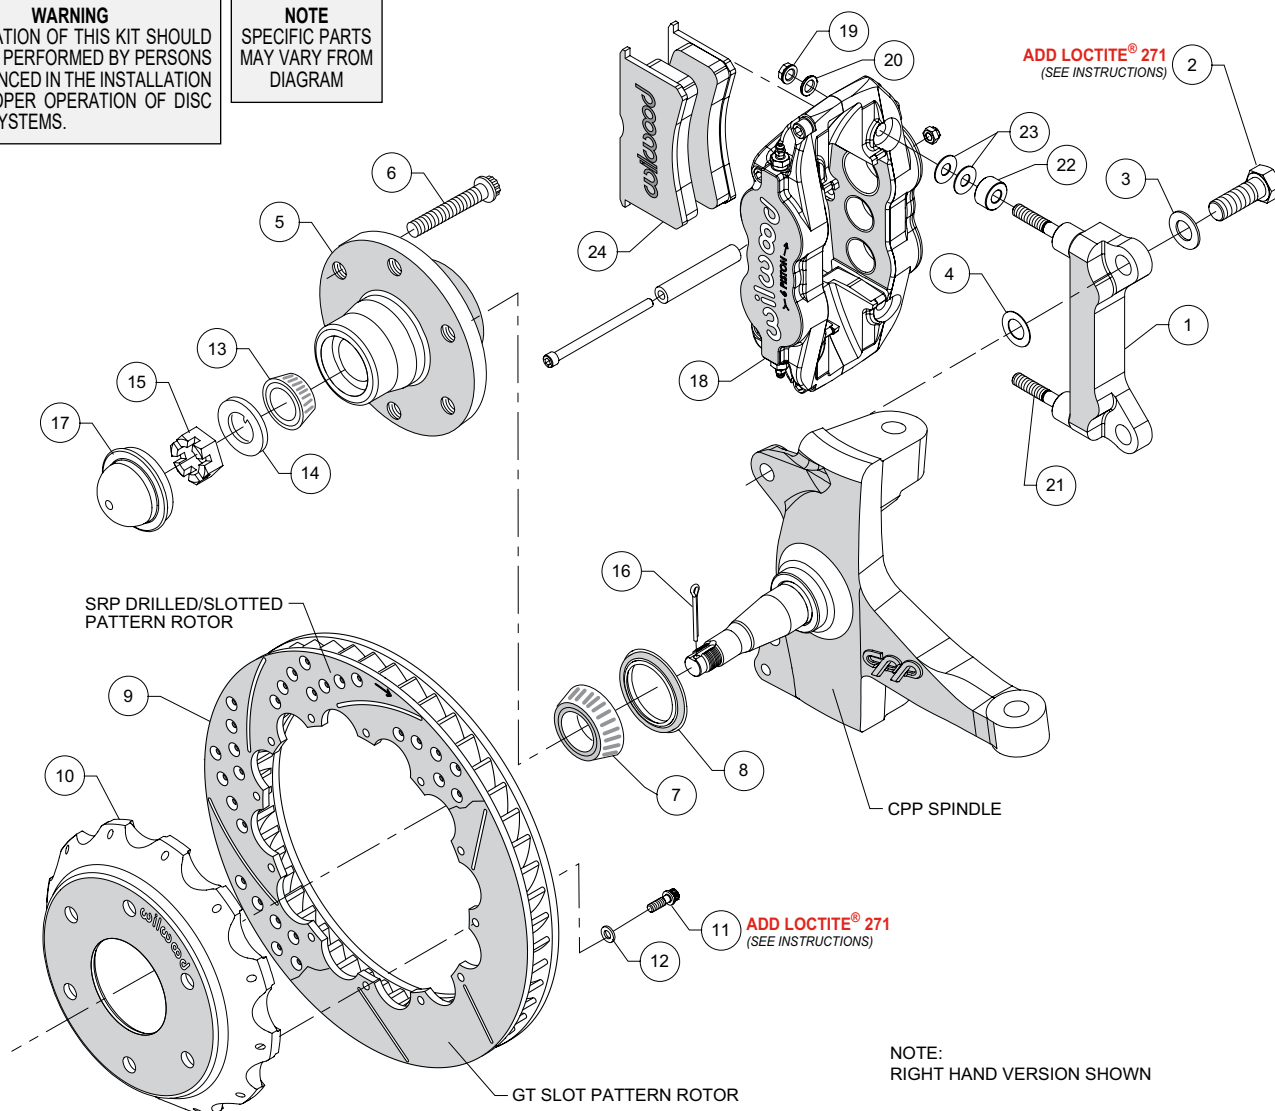
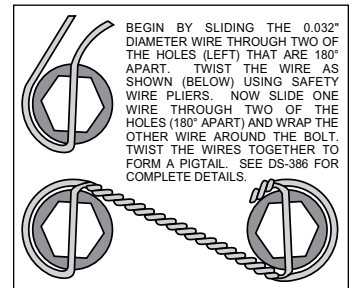

Figure 1. Typical Installation Configuration
Figure 3. Safety Wire Diagram
NOTE: Numbers in parenthesis refer to the parts list and Figure 1 on the preceding pages.
- The caliper mount bracket (1) should initially be installed with clean, dry threads on the mounting bolts. Orient the bracket, as shown in Figure 1, and Photo 1, and install using bolt (2) and washer (3). Initially place one .024" thick shim (4) on each bolt between the bracket and upright, Figure 1. Temporarily tighten the mounting bolts. **NOTE:** *The bracket must fit squarely against the mount bosses on the upright.* Inspect for interference from casting irregularities, machining ridges, burrs, etc. Later, after the caliper alignment has been checked, the mount bolts will be secured using red *Loctite*® 271.
- Install wheel studs (6) into the hub (5), Photo 2. Torque to 77 ft-lb.
- Pack the large inner bearing cone (7) with high temperature disc brake bearing grease (available from your local auto parts store) and install into the backside of the hub (5), Photo 3.
- Install the grease seal (8) by pressing into the backside of the hub (5), flush with the end of the hub, Photo 4.
- Orient the rotor (9) and the hat (10) as shown in Figure 1 and Photo 5. Attach rotor to hat using bolts (11) and washers (12). Apply red *Loctite*® 271 to the bolt threads and torque to 155 **in-lb** using a criss-cross pattern. For an added measure of security, the bolts may be safety wired using standard 0.032 inch diameter stainless steel safety wire as shown in Figure 3. Refer to Wilwood's data sheet DS-386 (available at www.wilwood.com/Pdf/DataSheets/ds386.pdf) for complete safety wire installation instructions.
- Pack the small outer bearing cone (13) with high temperature disc brake bearing grease and install into hub (5). Slide the hub assembly onto the spindle. Secure using spindle washer (14) and spindle nut (15), Photo 6. Adjust bearings per OEM specifications. Install a new cotter pin (16).
- Press the dust cap (17) into the hub (5). **NOTE:** *Do not hammer center of cap. Install using outer flange only.*
•Slide the hat/rotor assembly (10/9) onto the hub (5), Photo 7. **NOTE:** The hat must fit flush against the hub face or excessive rotor run out may result. Install three lug nuts (finger tight) to keep the hat/rotor assembly in place while continuing with the installation.
•**NOTE:** This kit contains distinct right and left hand calipers that must be mounted in a specific direction, as described below. Initially place one spacer (22) and two .035" thick shims (23) on each stud (21) between the caliper and the bracket, as shown in Figure 1 and Photo 8. Mount the caliper (18) onto the bracket (1) using lock nuts (19) and washers (20), Figure 1. Ensure that the caliper is mounted so the largest pistons are at the rotor exit end of the caliper, in relation to the direction of rotor rotation. Temporarily tighten the lock nuts and view the rotor through the top opening of the caliper. The rotor should be centered in the caliper, Photo 9. If not, adjust by adding or subtracting shims (4) between the bracket and the upright. Always use the same amount of shims on each of the two mounting bolts. Once the caliper alignment is correct, remove the bracket mounting bolts (2) one at a time, apply red *Loctite*® 271 to the threads, and torque to 140 ft-lbs.
•Remove the caliper center bridge pad retainer bolt, nut, and tube from the caliper. Insert the brake pads (24) into the caliper, with the friction material facing the rotor, as shown in Photo 10. Check that the top of the brake pad is flush with the outside diameter of the rotor, Photo 11. If not, adjust by adding or subtracting shims (23) between the caliper and the spacer. After the caliper pad height is set, torque the caliper lock nuts (19) to 30 ft-lb. Secure the brake pads in place with the center bridge pad retainer tube, bolt, and locknut, Photo 12. The locknut should be snug without play in the bolt or tube. Be cautious not to over tighten.